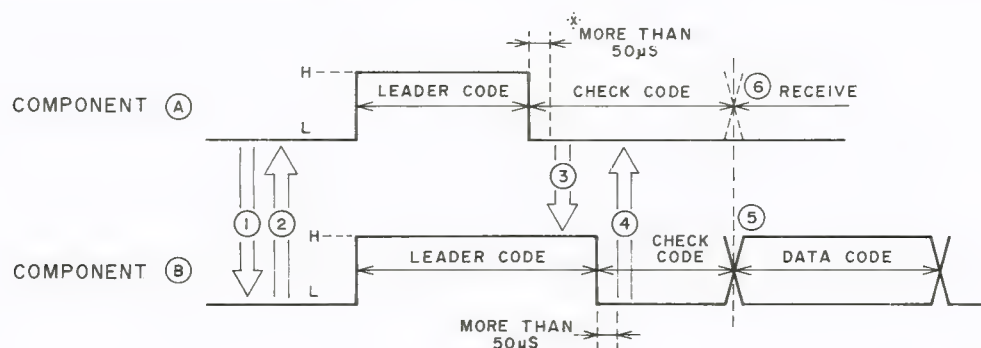

Fig. 5-9
- An interval of 50  $\mu$ sec min. shall be provided after the lowering to 'L' before checking the bus (Fig. 5-9).